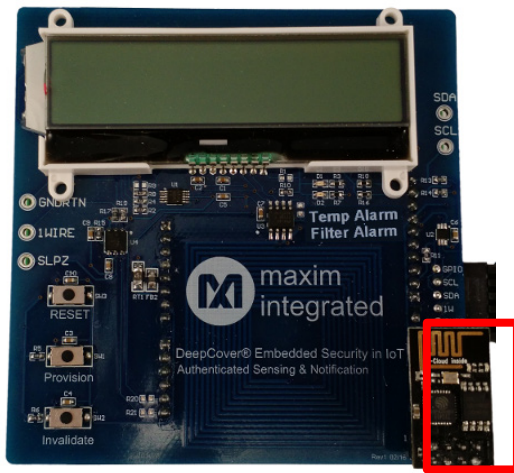

Figure 10. Inserting the ESP8266 module.
1. Insert the ESP8266 module into its socket as shown (Figure 10).